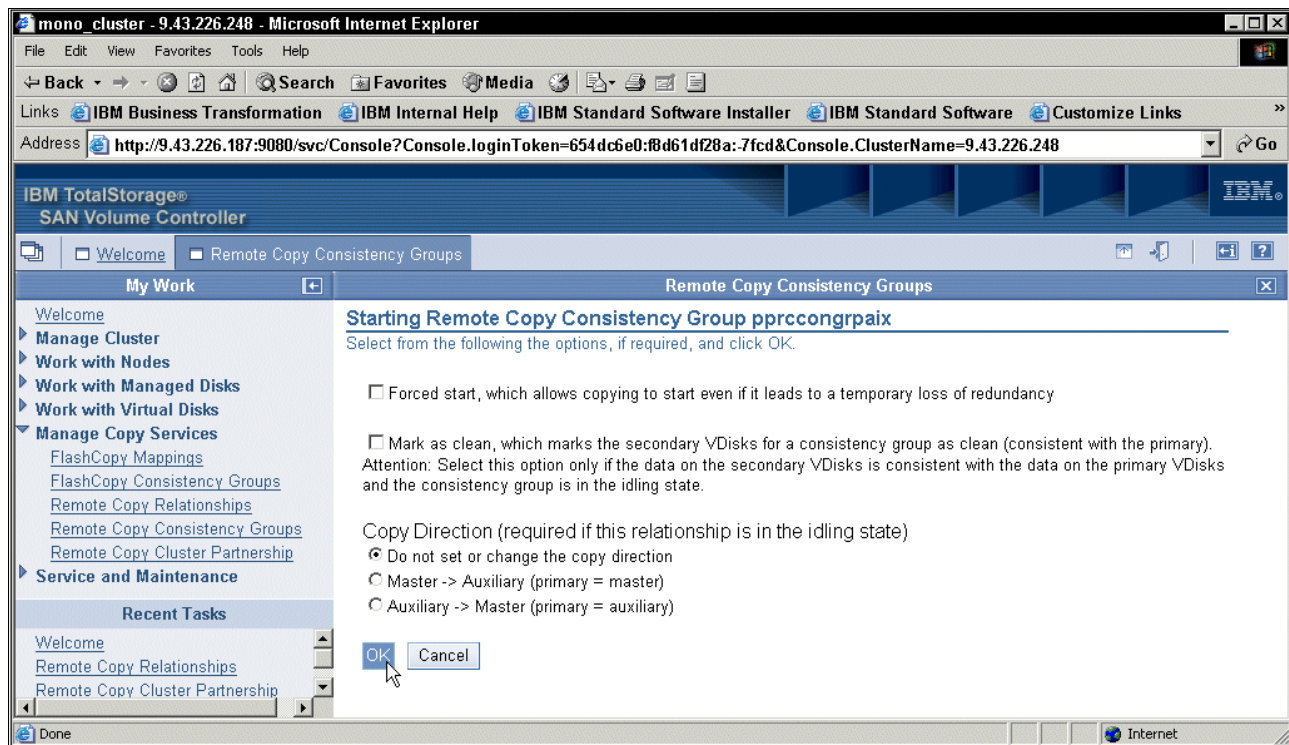

Figure 11-29 Starting Remote Copy Consistency Group pprcongrpaix
4. You see the Starting Remote Copy Consistency Group pprcongrpaix panel (Figure 11-29). In this example, under Copy Direction, we select **Do not set or change the copy direction** and click **OK**.